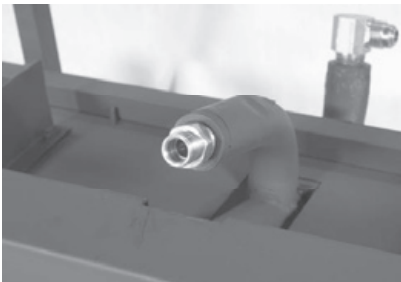

Figure 8
4. Using an adjustable wrench, and turning in a clockwise direction, install the compression fitting into the ember burner gas feed (where the plug was removed in Step 2). **See Figure 8.**